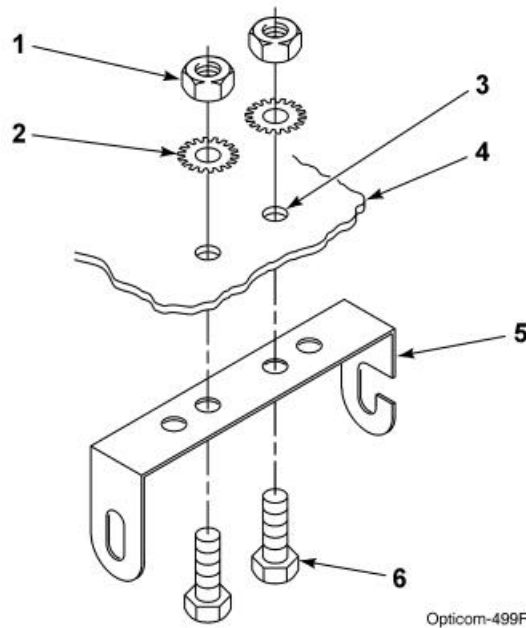

Figure 5-4. Control Unit Mounting Bracket Installation
2. Insert the two 10-32 x 3/4-inch cap screws through the holes in the mounting bracket and mounting surface. See Figure 5-4.